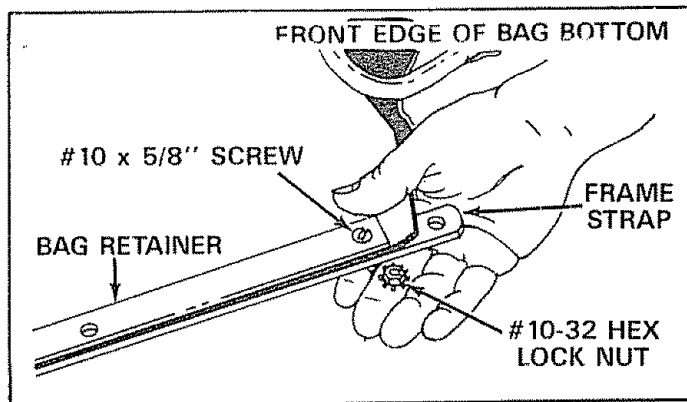

FIGURE 15
- Assemble the bag frame strap (bottom) and bag retainer (top) to the front edge of bag bottom. Place the bag retainer on top and frame strap on bottom. Secure with four #10 x 5/8" slotted screws and #10-32 hex lock nuts. See figure 15.